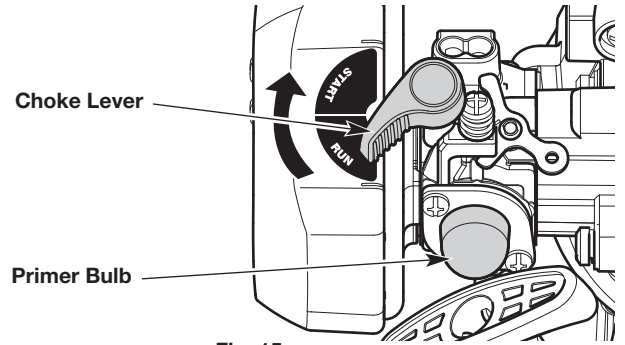

Fig. 15
3. Slowly press and release the primer bulb **10 times** (Fig. 15). If fuel cannot be seen in the primer bulb, press and release the primer bulb until fuel is visible.
4. **DO NOT** squeeze the throttle control. Flip the choke lever clockwise until it clicks into the **START** position (Fig. 15).